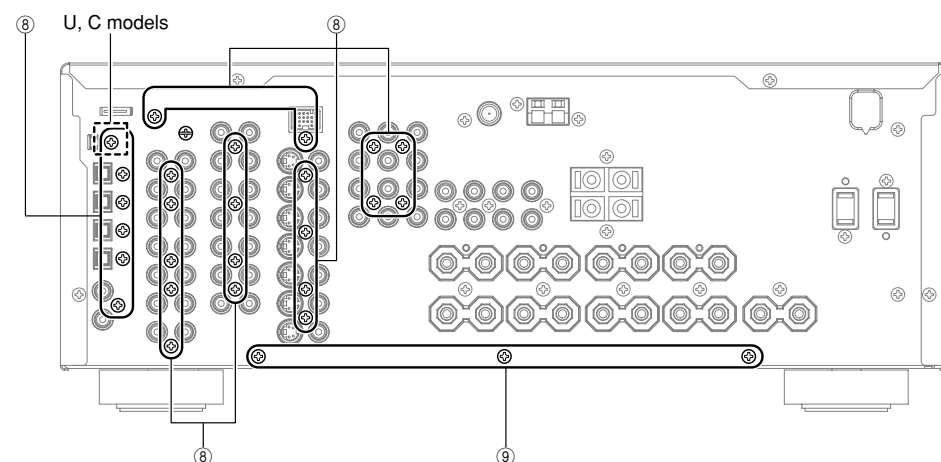
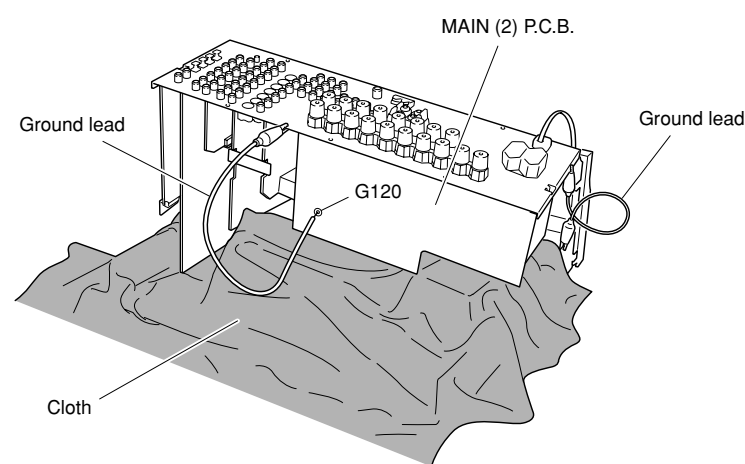

Fig. 4
Fig. 6
- b. Remove 25 screws (U, C models)/24 screws (A model) (8). (Fig. 4)
- Remove 3 screws (9). (Fig. 4)
- Remove 1 screw (10), 1 screw (11) and 1 screw (12).
- Holding the rear panel, raise the MAIN (2) P.C.B. so that its bottom face can be seen. (Fig. 6)